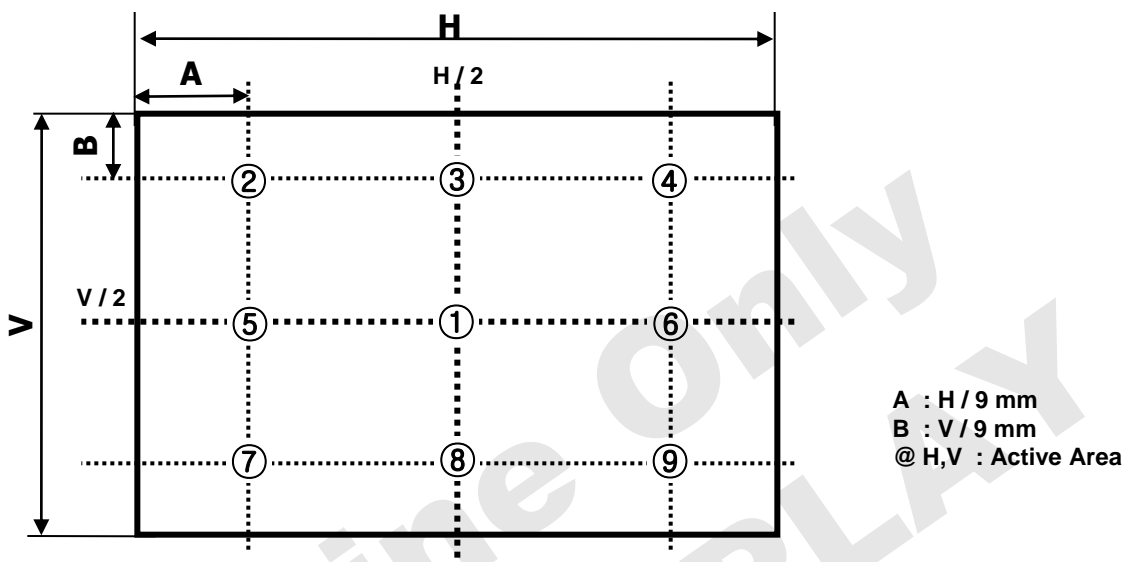

FIG. 3 9 Points for Luminance Measure
2. Surface luminance is determined after the unit has been 'ON' and 1 Hour after lighting the backlight in a dark environment at  $25 \pm 2^\circ\text{C}$ . Surface luminance is the luminance value at center 1-point across the LCD surface 50cm from the surface with all pixels displaying white. For more information see the FIG. 3.
For more information, see the FIG. 3.